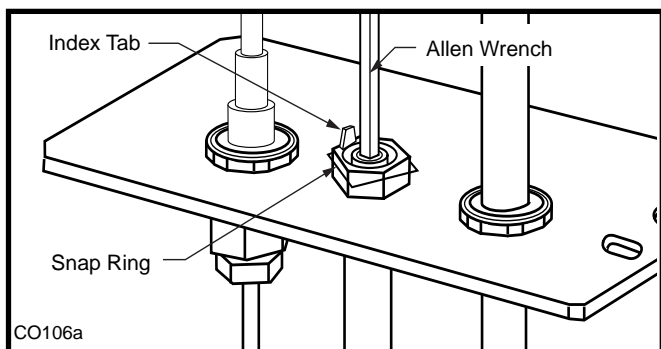

Fig. 42 Remove pilot orifice.
- Remove pilot orifice with allen wrench. (Fig. 42)